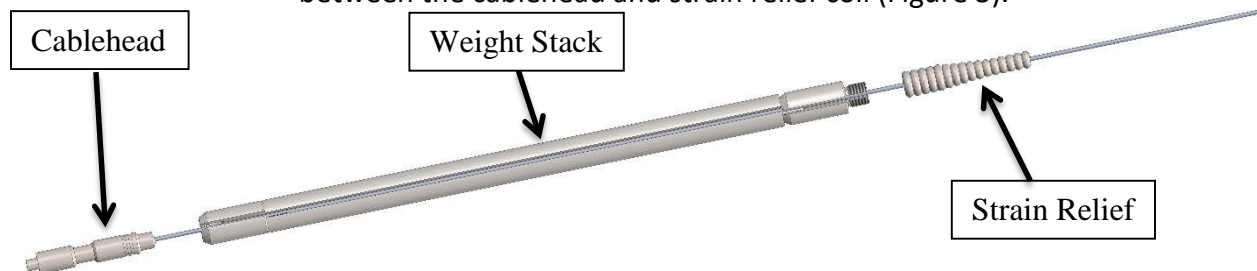

Figure 3: Weight stack assembly
11.3.4 Lay the winch cable through the weight stack with the weight stack in between the cablehead and strain relief coil (Figure 3).